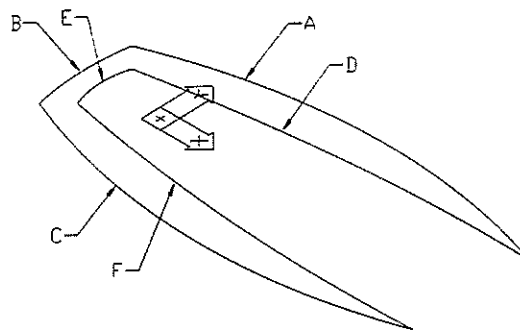

Figure 2.234 Six arcs constructed
On the new UCS, construct six arc segments. (See Figure 2.234.)
- Radius/Trim/<Select first object>: [**Select A (Figure 2.234).**]
Radius/Trim/<Select second object>: [**Select B (Figure 2.234).**]
Radius/Trim/<Select first object>: [**Select B (Figure 2.234).**]
Radius/Trim/<Select second object>: [**Select C (Figure 2.234).**]
Radius/Trim/<Select first object>: [**Select D (Figure 2.234).**]
Radius/Trim/<Select second object>: [**Select E (Figure 2.234).**]
Radius/Trim/<Select first object>: [**Select E (Figure 2.234).**]
Radius/Trim/<Select second object>: [**Select F (Figure 2.234).**]